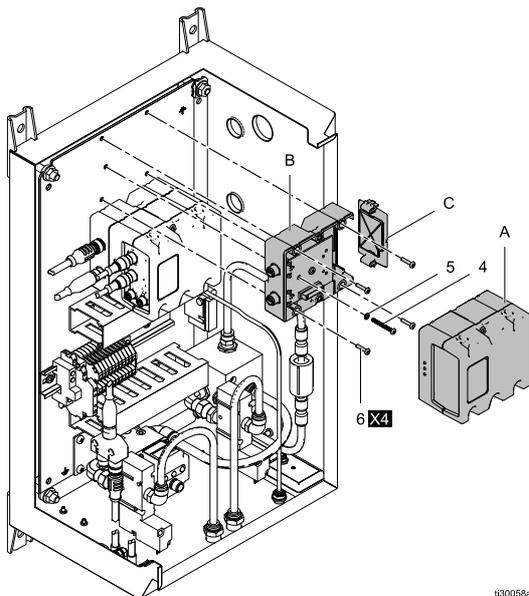

Figure 3 Speed Control Box
- a. Use four screws (6) to mount the base (B) in the electrical control box (see Figures 3, 4, and 5 above).
- b. Install the grounding screw (4) and washer (5) and tighten so that the grounding screw threads into the mounting bracket.